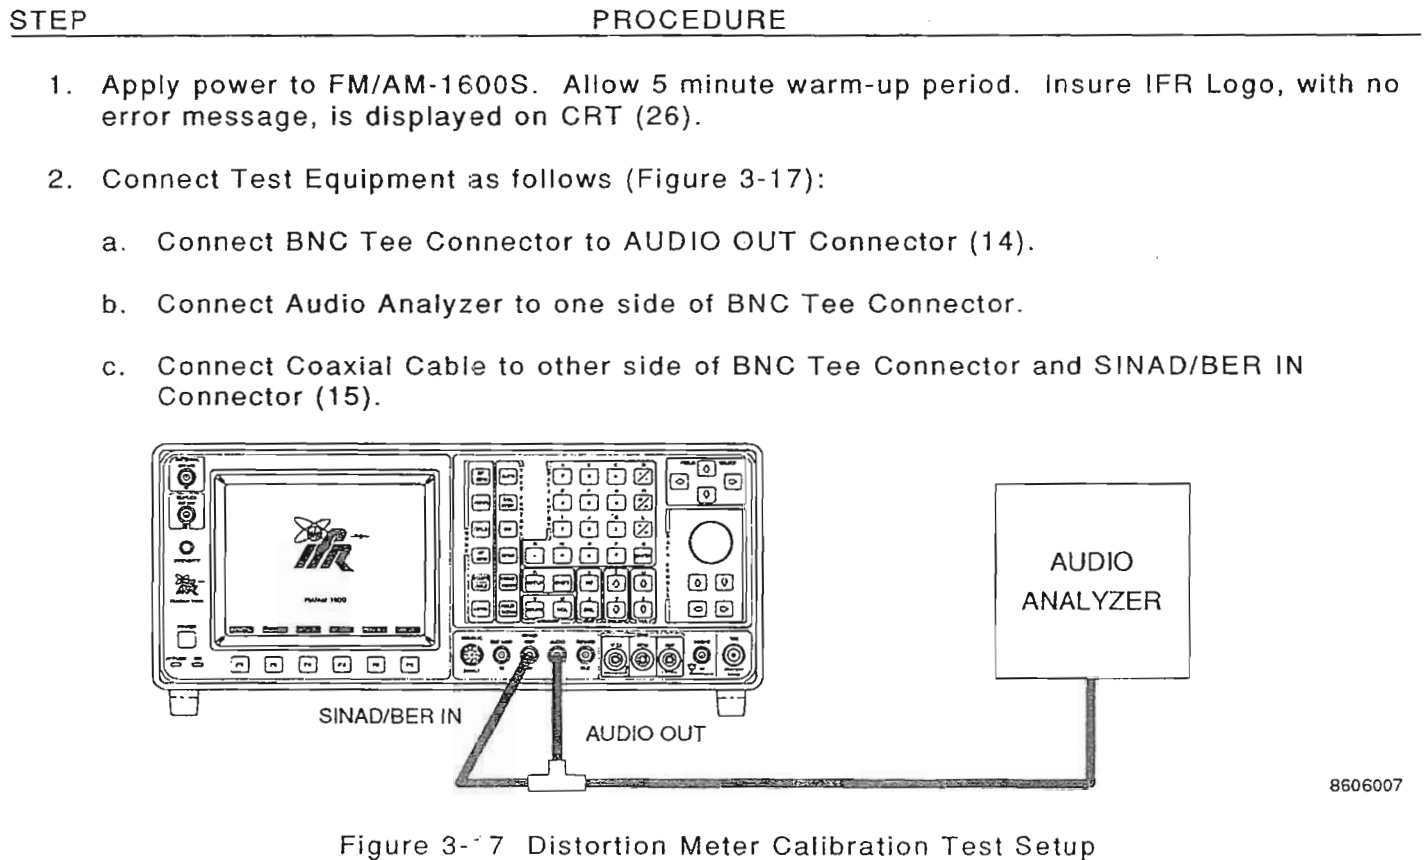

Figure 3-17 Distortion Meter Calibration Test Setup
1.	Apply power to FM/AM-1600S. Allow 5 minute warm-up period. Insure IFR Logo, with no error message, is displayed on CRT (26).
2.	Connect Power Splitter to Signal Generator RF Output (Figure 3-17).
FIGURE REFERENCES: Figure 3-17